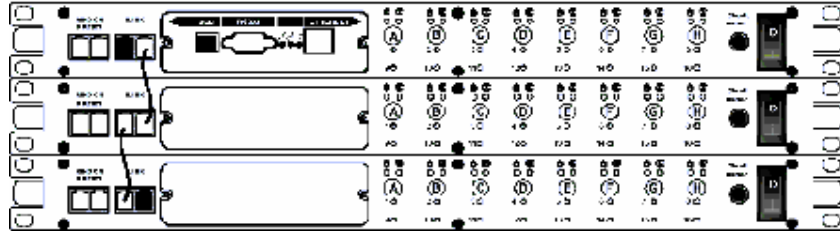

Figure 3 - First, second and third RPM
13. Make sure that the third RPM has the Terminator plugged into the iLink port (see Figure 3).